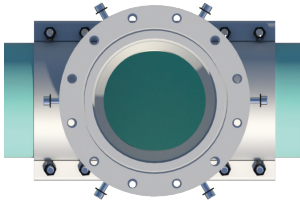

Figure 6
D.10) Check inside of fitting body outlet to ensure gasket is properly seated. Ensure completion plug set pins are flush with I.D. of the flange (see Figure 6).